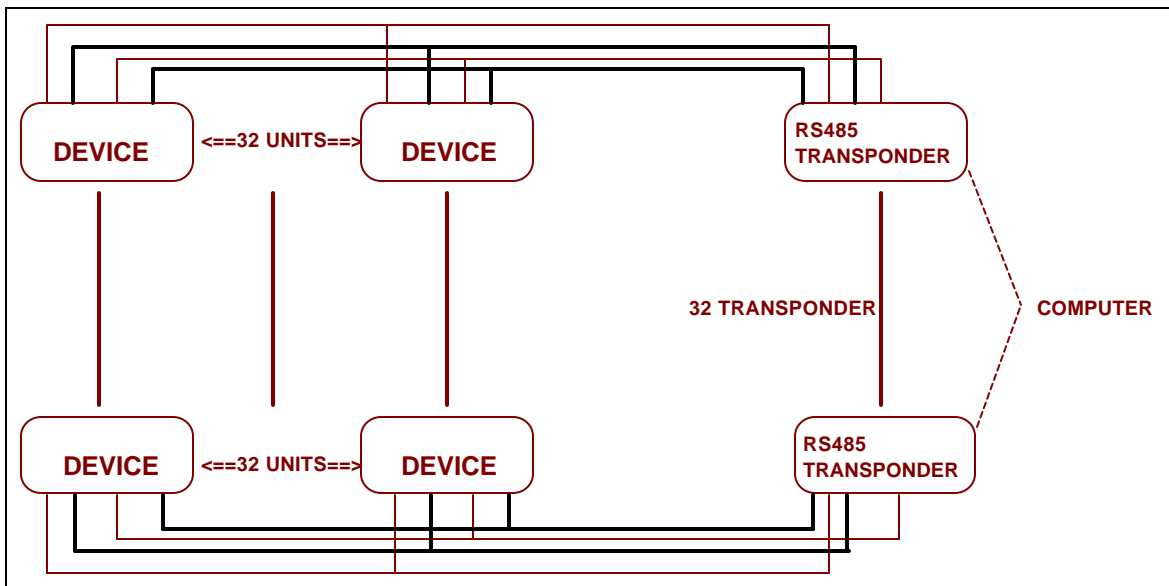

Figure 4.5 4-Wire RS485 Communication Installation Connection with Transponder
- In a four-wire connection, a maximum of 3600 instruments can be included in the same link, (Figure 4.5).